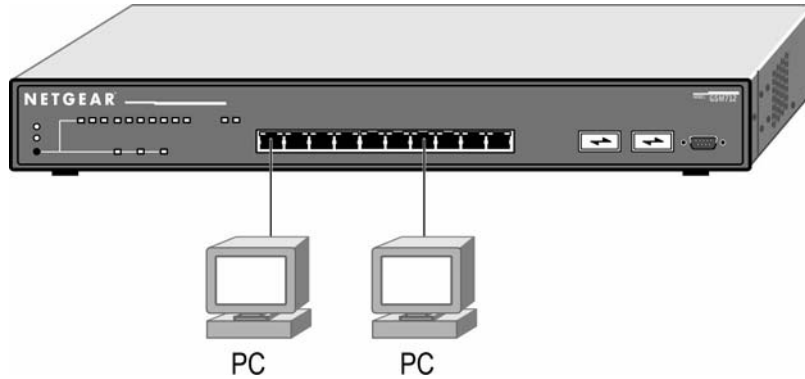
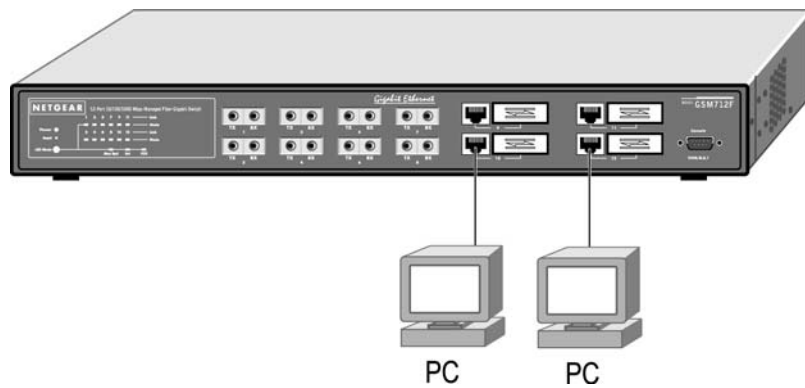

Figure 3-8. GSM712 Connecting Devices to the Switch
Figure 3-9. GSM712F Connecting Devices to the Switch
20. Connect each device to an RJ-45 network port on the switch's front panel (see Figure 3-8 or Figure 3-9). Use Category 5 (Cat5) unshielded twisted-pair (UTP) cable terminated with an RJ-45 connector to make these connections.